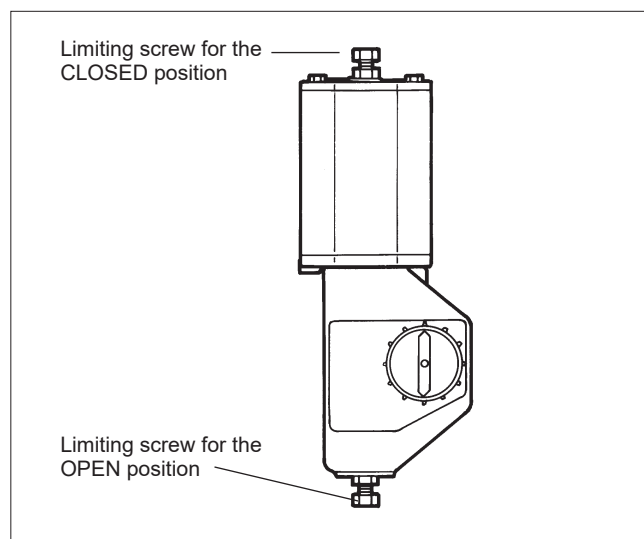

Fig. 23 Open and closed position in a B1 actuator
- Adjust the ball open and closed positions (limits to piston movement) by means of the actuator stop screws (see Fig. 23). An accurate open position can be seen in the body flow bore. Check that the yellow arrow indicates the direction of the ball flow bore. **Keep your fingers out of the flow bore!**